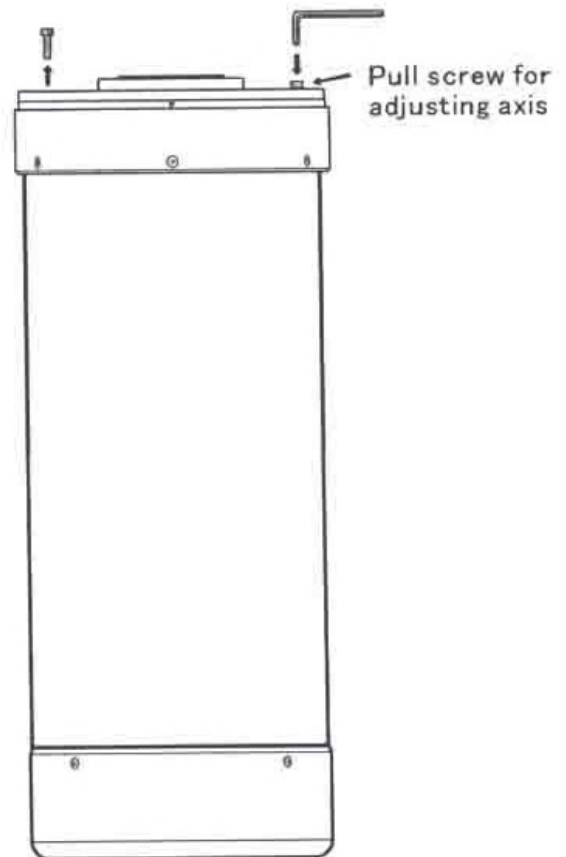

Fig. 24
3. Remove the 3 pulling screws by using Allen wrench provided. Refer to the Fig. 24.